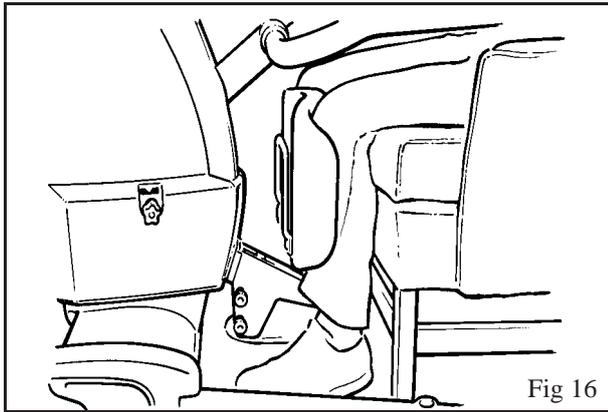

Fig 16
- Carefully push the lift closer to make full lower leg contact with the Proactive Pad. (See Fig 16)